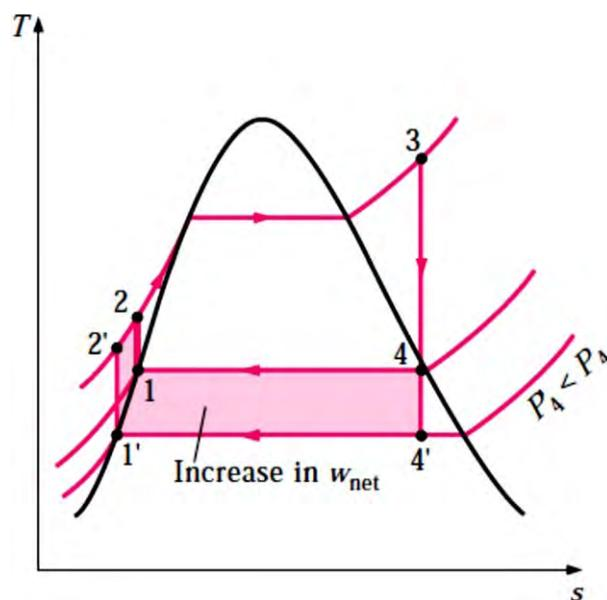

Fig. 6.4 Effect of condenser pressure on the Rankine cycle performance
- The effect of lowering the condenser pressure on the Rankine cycle efficiency is illustrated on a T-s diagram in Fig. 6.4.